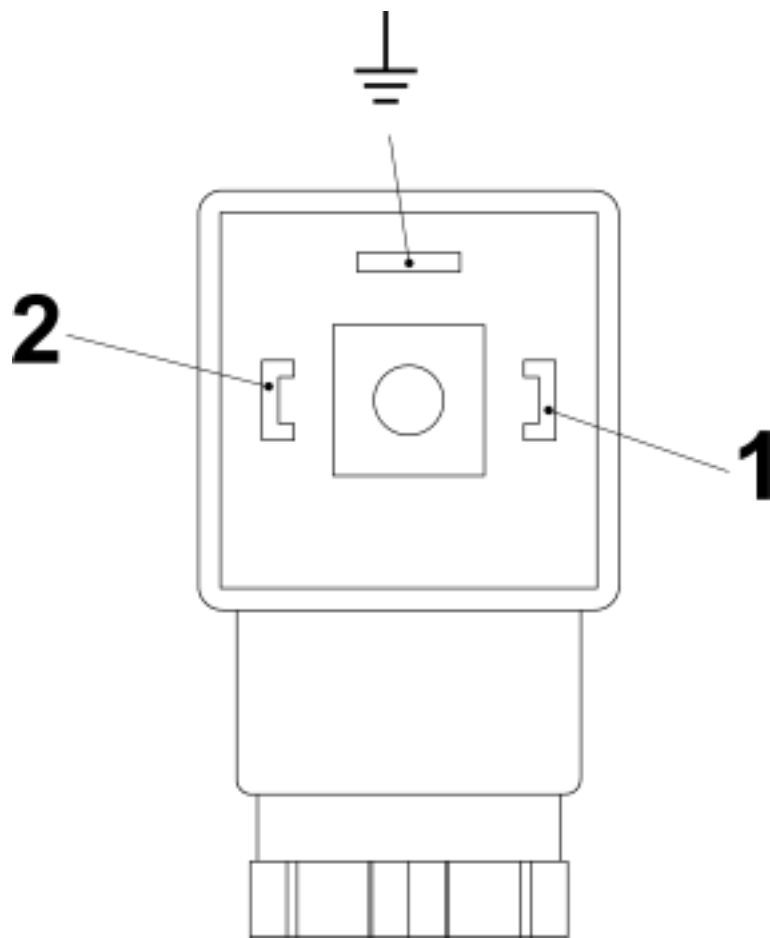
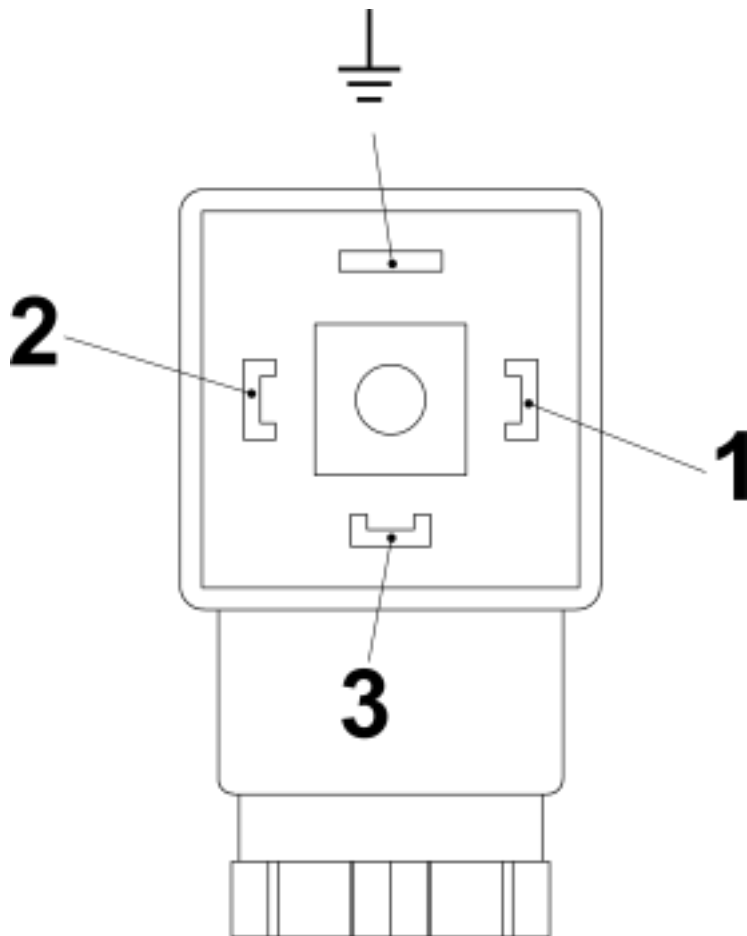

Fig. 31: Pin assignment, plug socket, normally-open contact (SG-30 with connector in compliance with EN175301-803)
Fig. 32: Pin assignment, plug socket, change-over contact (SG-30 with connector in compliance with EN175301-803)
6. → Make the connections as shown in the connection diagrams (Fig. 31 and Fig. 32).